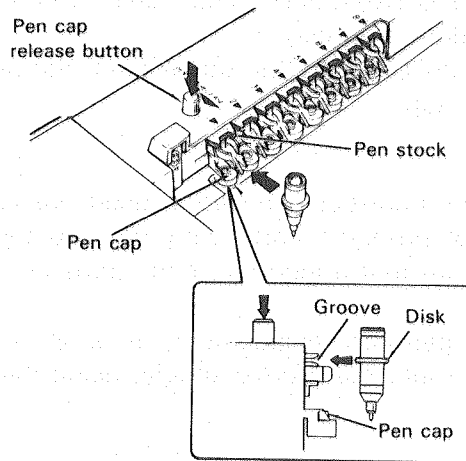

Fig. 2-13
- ① Remove the cap from the pen to be attached. While pressing the "PEN CAP RELEASE" button as shown in Fig. 2-13, press in the pen gently so that the disk portion of the pen snugly fits into the groove of the pen stock.